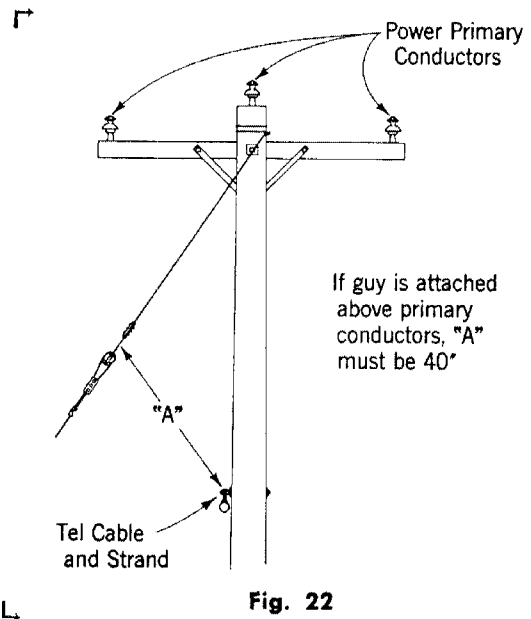

Fig. 22
9.01 If power side guys are attached above primary conductors, telephone wires or cables shall have at least 40 inches clearance from any part of such guys which lie between the nearest guy insulator and the pole.¹ (See Fig. 22.)